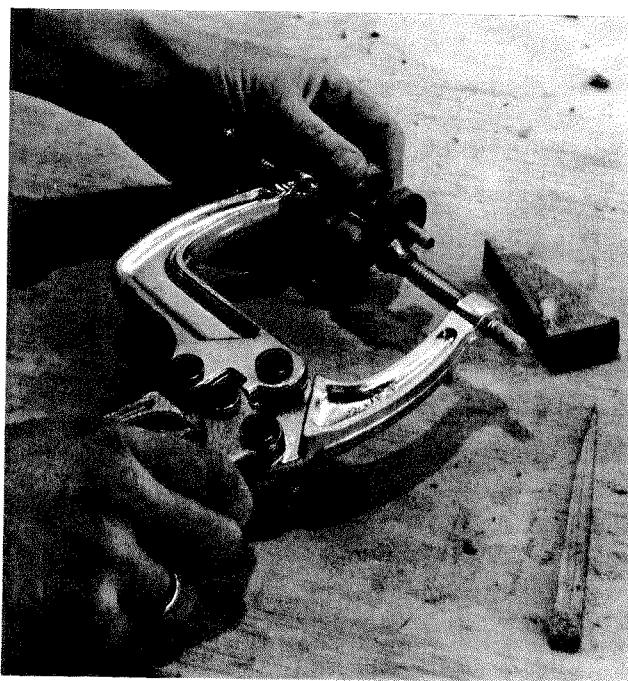

FIGURE 2-8
- 6** Cut away the waste, replace the dowel, and then glue and clamp the three layers to make up the unit (Fig 2-8). When the glue is dry, run a $\frac{1}{2}$ "-diameter hole